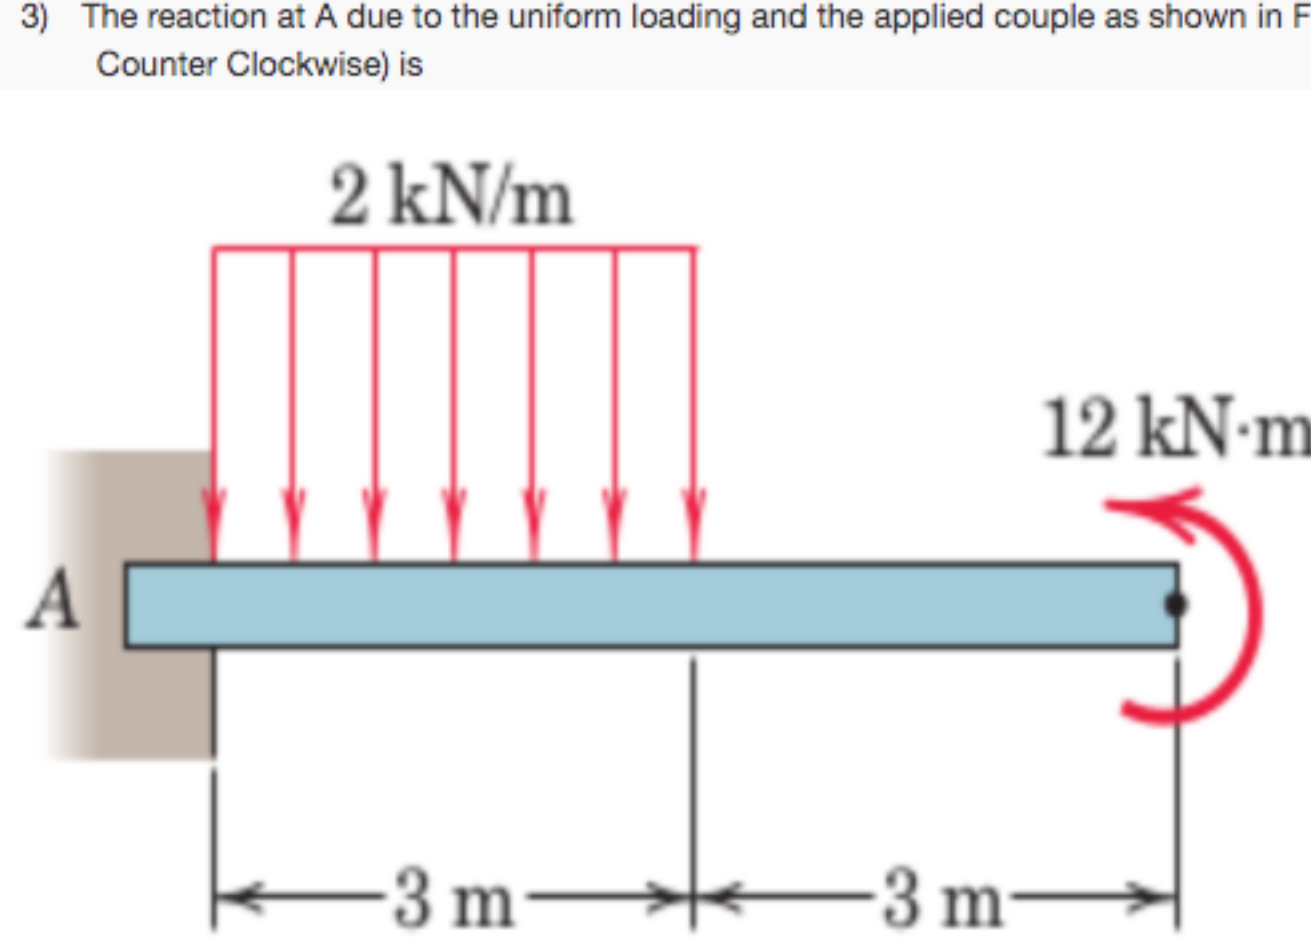

Figure 3: Figure for question No.3
3) The reaction at A due to the uniform loading and the applied couple as shown in Figure 3 (CW stands for Clockwise and CCW stands for Counter Clockwise) is **1 point**